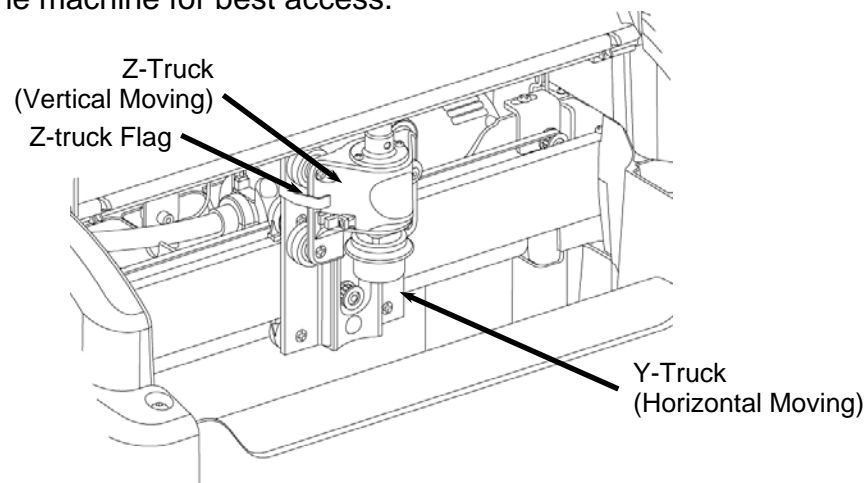
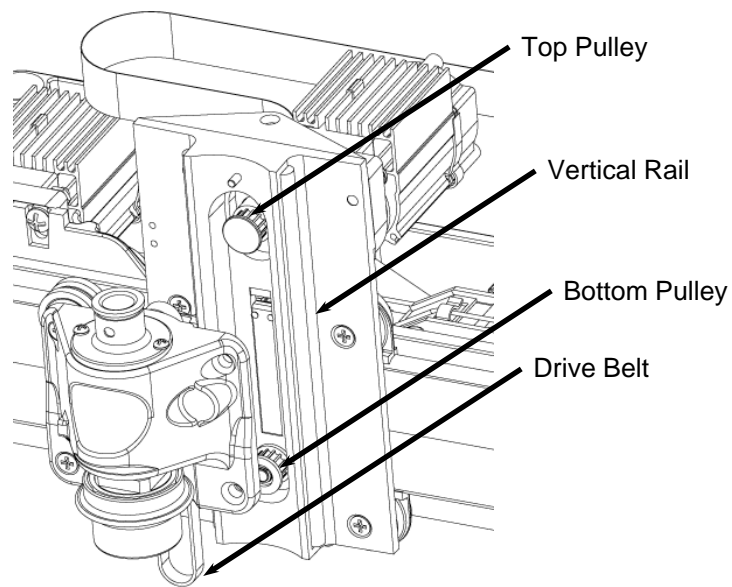

FIGURE 1: VIEW OF THE Z-TRUCK
**FIGURE 9:** VIEW OF THE Z-TRUCK ROLLERS
8. **Remove the roller bearing wipers:** Remove all four of the roller bearing wipers on the Z-truck by simply pulling them off (See Figure 9). Also if your machine still has a Z-truck Flag, as in Figure 1, you may remove it permanently. It is no longer used or needed.